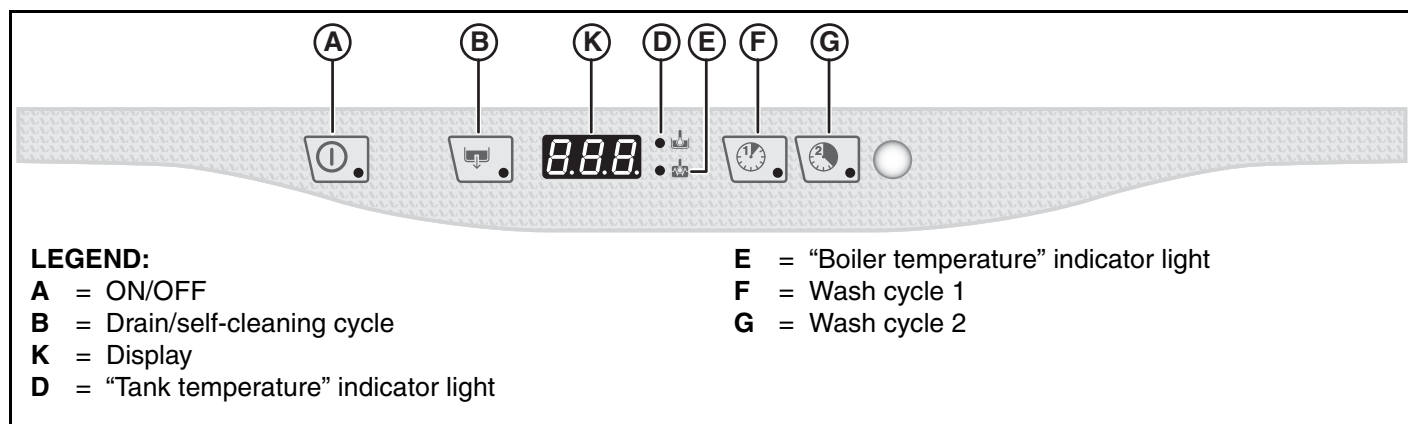

Figure 14
The indicator light of the ON/OFF button “A” (Figure 14) comes on, indicating that the dishwasher is powered and that water is being introduced and heated.
To display the boiler temperature during heating of the tank, open the door and press “F” button (Figure 14).
For lightly soiled dishes or glasses: press “F” button (Figure 14) (see table of times).
For normally dirty dishes: press “G” button (Figure 14) (see table of times).
- Select the drain cycle by pressing "B" button (Figure 14).
- Switch off the dishwasher by pressing "A" button (Figure 14).
Close the door and select the drain cycle by pressing the "B" button (Figure 14).
Switch off the dishwasher by pressing "A" button (Figure 14)
Press on/off "A" button (Figure 14).
Close the door and start the **Cycle II** by pressing "G" button (Figure 14). The wash cycle duration is 4 minutes.